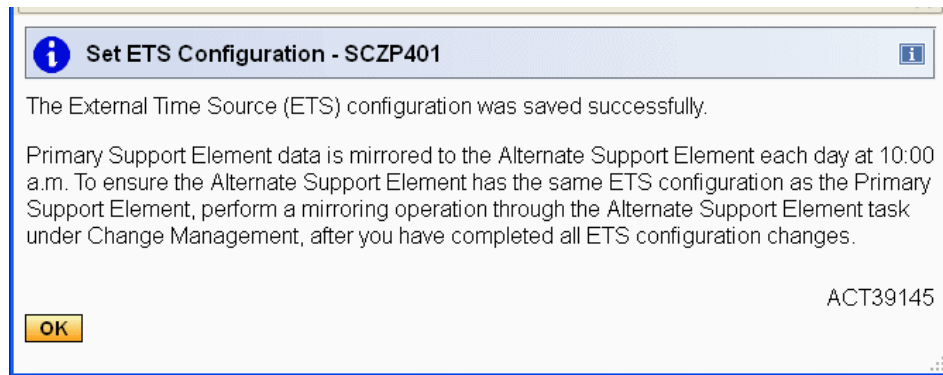

Figure 1-34 ETS configuration saved - mirroring information
10. When you click **Apply**, the NTP server configuration is saved on the Support Element and message ACT39145 displays (Figure 1-34). The configuration takes effect immediately if only one NTP server is configured.